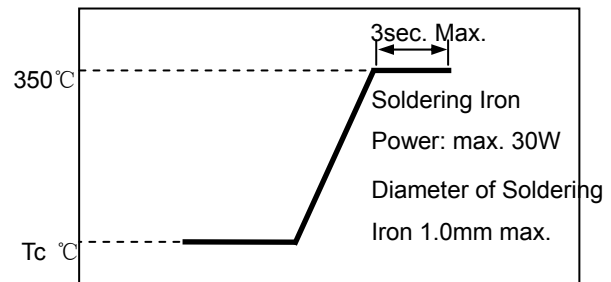

Fig. 11.2-1
- Please refer to **Fig. 11.2-1**.